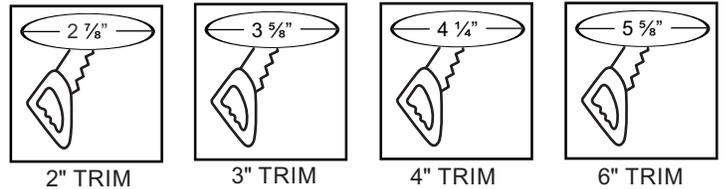

Fig. 1
Step 1. Cut a hole according to the proper diameter in the existing ceiling. **Fig. 1**